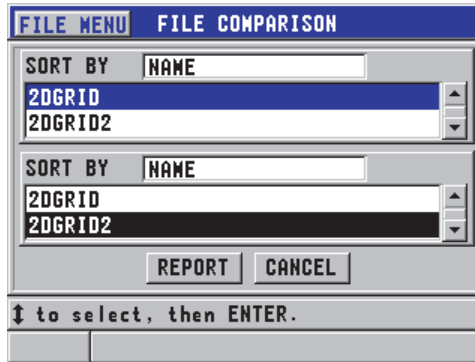

Figure 6-42 The FILE COMPARISON report screen
5. In the **FILE COMPARISON** screen (see Figure 6-42 on page 125):